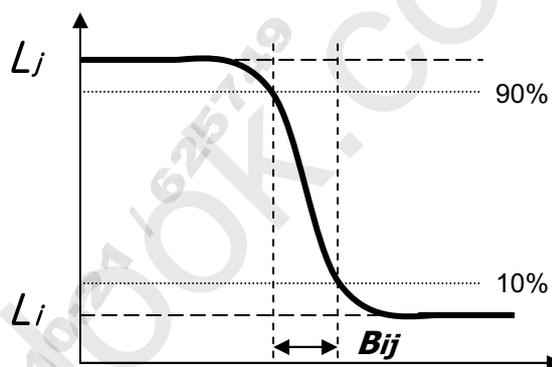

FIG. 4 MPRT
5. MPRT is defined as 10% to 90% blur-edge width  $Bij$ (pixels) and scroll speed  $U$ (pixels/frame)at the moving picture. For more information, see FIG 4